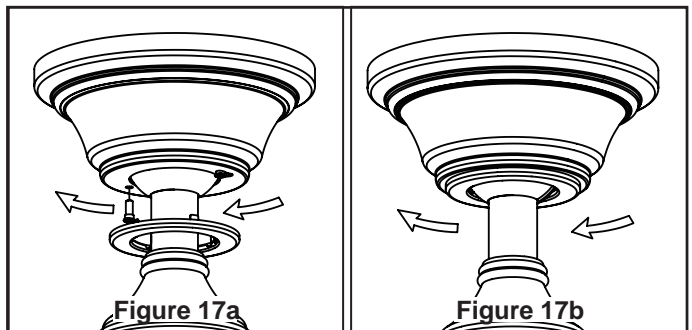

Figure 17a
1. Remove one of the two shoulder screws in the hanger bracket. Loosen the second shoulder screw without fully removing it. Assemble canopy by rotating key slot in canopy over shoulder screw in hanger bracket. Tighten shoulder screw. Fully assemble and tighten second shoulder screw that was previously removed (Figure 17a).